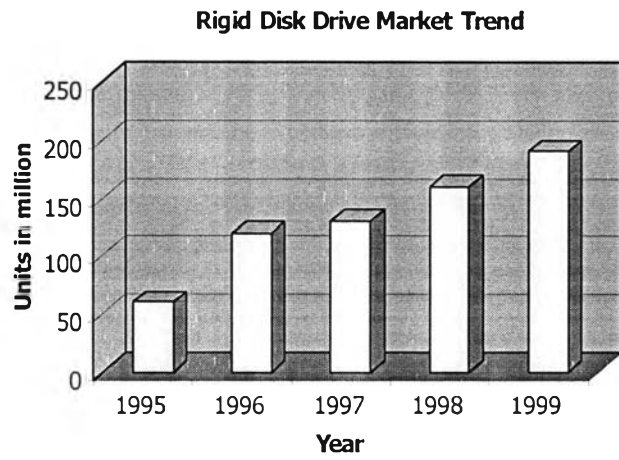

Figure 4.1 Rigid disk drive market trend
- 1) HGA volume build keeps increasing which follows the rigid disk drive demand. The product design cycle is also reduced due to time to market pressures. Results to low product capability, poor test process and rapid changes of product design. As shown in figure 4.1 and 4.2, the disk drive market trend and technology trend respectively and several changes required during producing products as shown in figure 4.3.